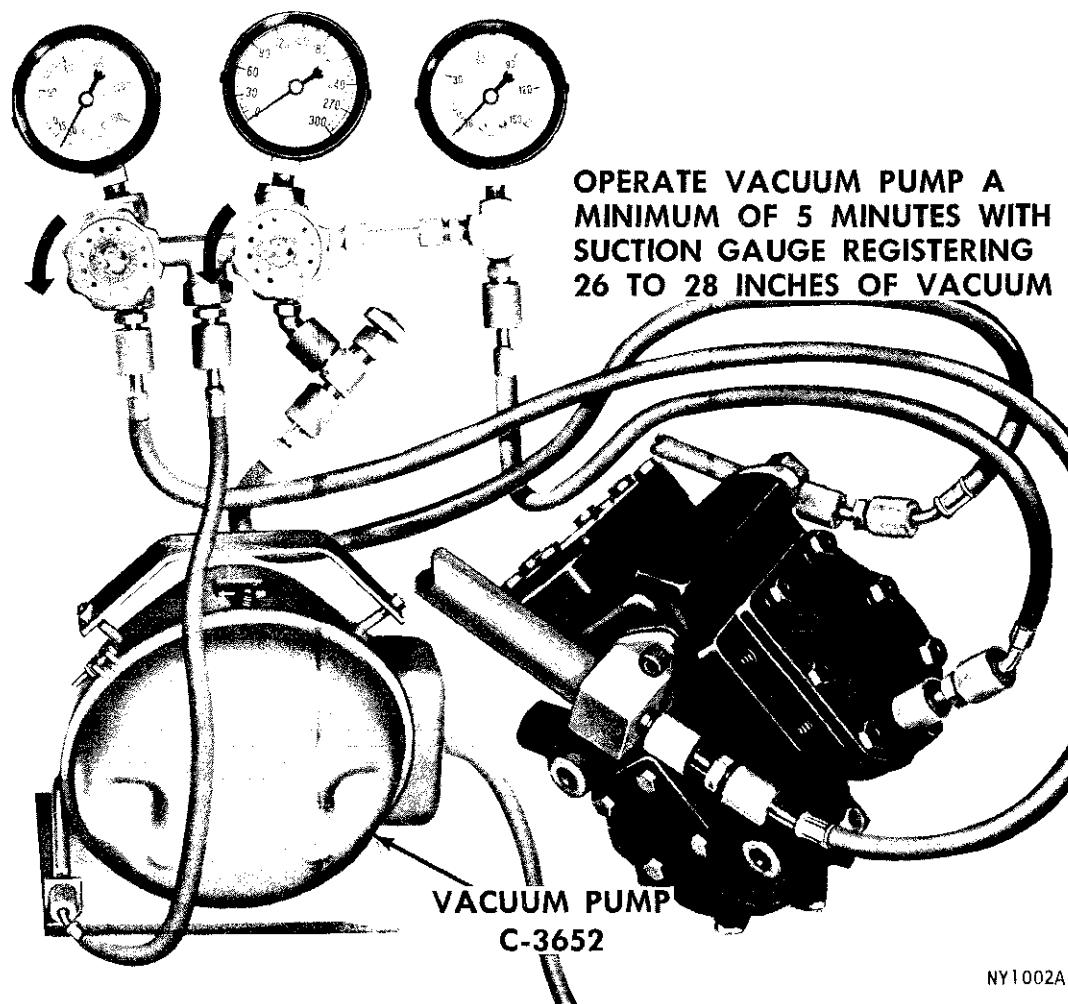

Fig. 51—Evacuating the System
- (1) Connect the gauge set manifold to the compressor and the long test hose from the gauge set manifold center connection to the vacuum pump (Tool C-3652) as shown in Figure 51.
- (2) Open both gauge set manifold valves and the needle valve.
- (3) Start the vacuum pump and operate until the evaporator suction gauge registers at least 26 inches of vacuum. If the system is tight and the pump in good condition, the vacuum will go as low as 28 inches.
- (4) Allow the vacuum pump to operate with suction gauge registering 26 to 28 inches of vacuum for a minimum of five minutes.
- (5) Close both gauge set manifold valves, turn off the vacuum pump and remove the test hose from the vacuum pump. Leave the gauge set manifold con-